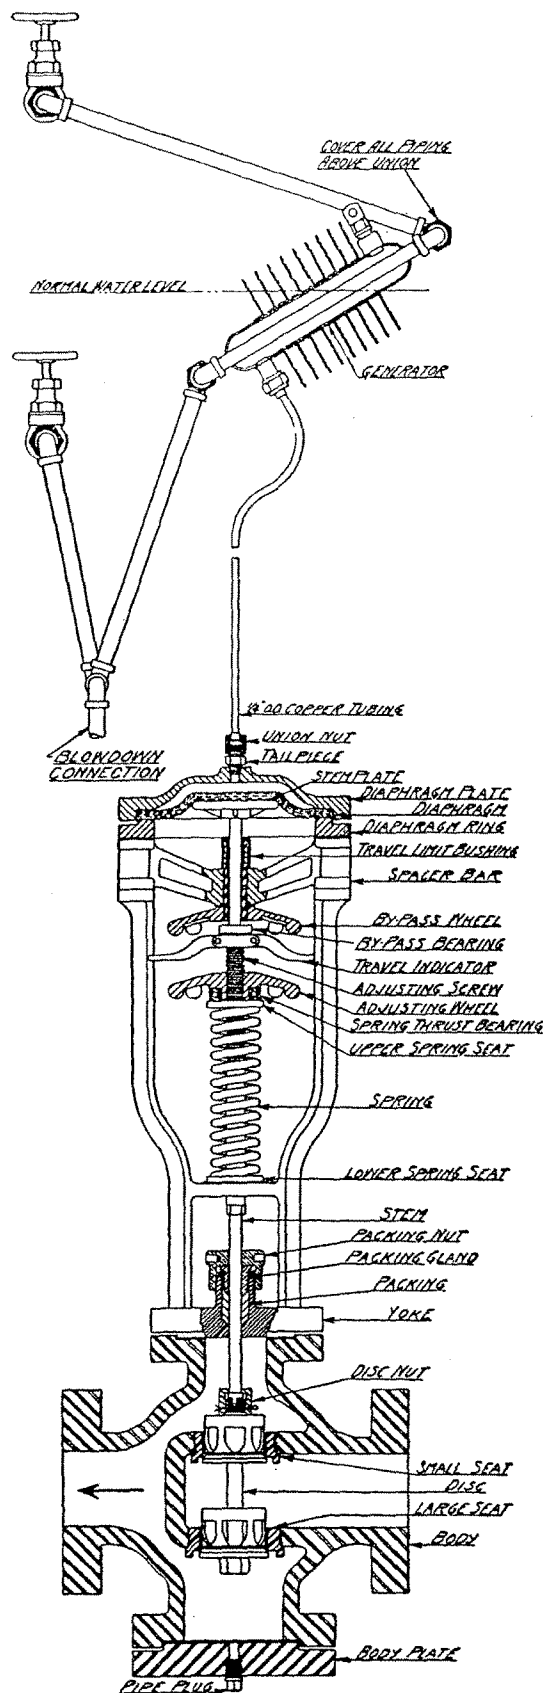

Fig. 332
3. In ordering repair parts, refer to the parts by name as shown in Fig. 332. *Be sure to mention size and serial number of the regulator.*
2. Install the valve so the flow is in the direction of the arrow shown in Fig. 332.
4. Cover all piping above the generator as shown in Fig. 332. Do not cover or paint the generator or any of the lower generator piping.